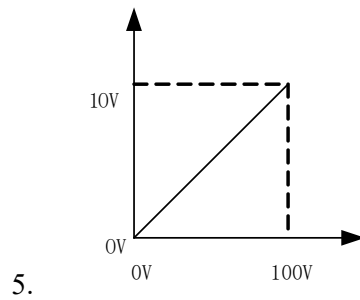

Figure 4-21 Real-time voltage feedback corresponding relationship
2. The corresponding relationship of real-time voltage feedback is shown in Figure 4-21.